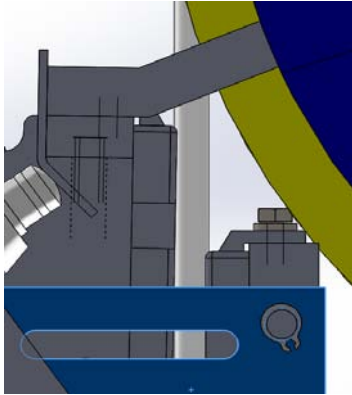

Figure 4
2.2.2.6 Adjust the rope position. Adjust the OSG ,the rope shall no contact with brake shoes, shall be in the middle of two brake shoes and shall keep parallel with brake shoes(see fig.4).